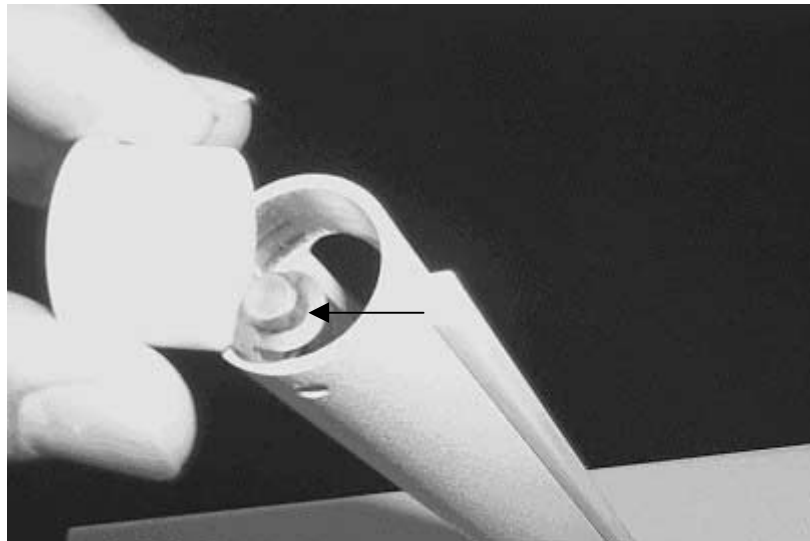

Figure 1-8. View of the spring washer.
7. There will be a spring washer that is located on the end of the Y-axis leadscrew while removing the endcap. See Figure 1-8. Make sure to remove it from the leadscrew.